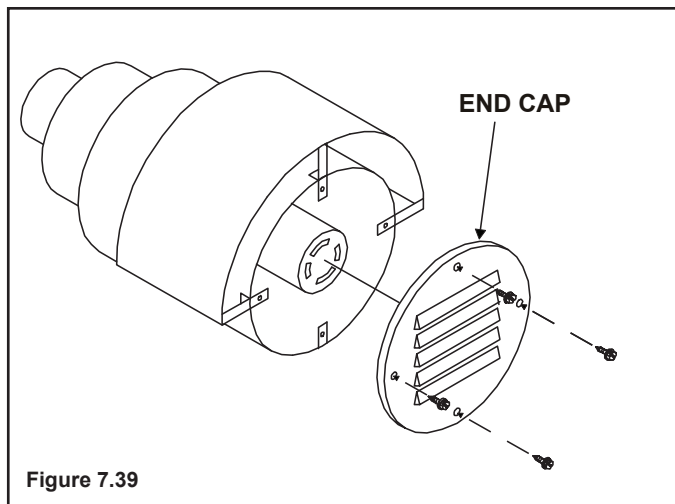

Figure 7.39
- A. Turn power to off. Remove end cap by removing the four (4) sheetmetal screws. See Figure 7.39.